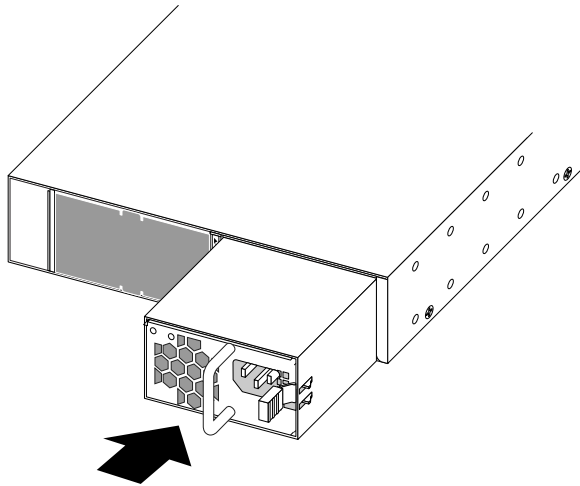

Figure 30: Installing A 350 W or 715 W AC Power Supply
6. Carefully slide the power supply all the way into the power supply bay, as shown in Figure 30.